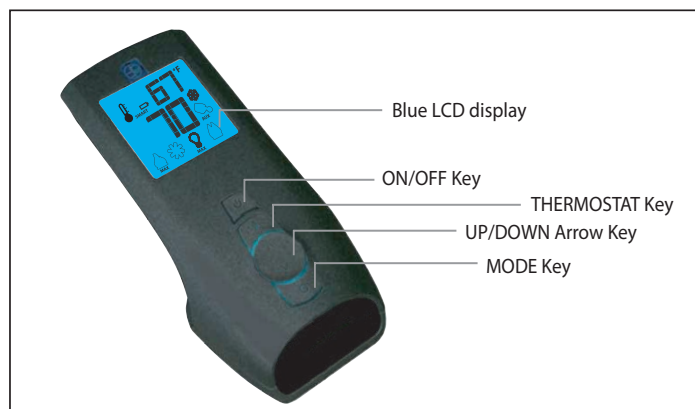
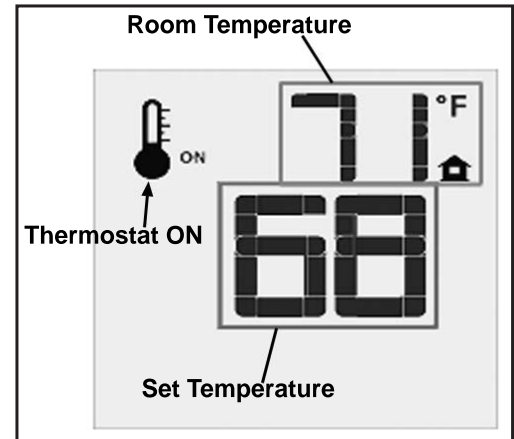
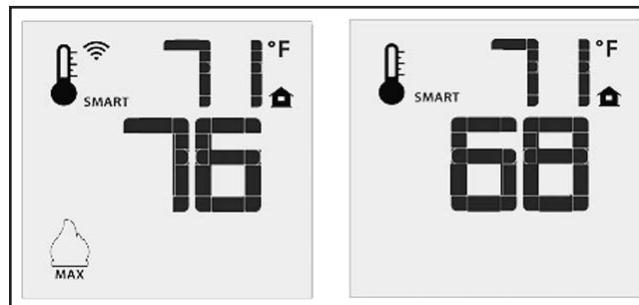
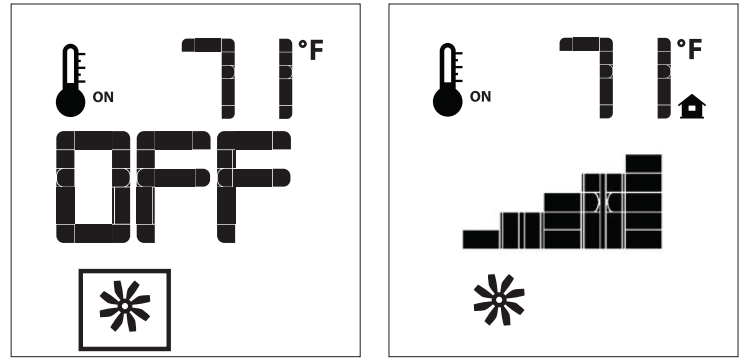

Figure 5: Proflame 2 Transmitter.
Figure 10: Remote Control Displays Set Temperature.
Figure 11: Remote Control's Smart Flame Function.
Figure 13: Fan Control
The Proflame 2 Transmitter is a black remote control with a blue backlit lcd display. It uses a streamline design with a simple button layout and informative lcd readout (Figure 6). The Transmitter is powered by three (3) AAA type batteries. A Mode Key is provided to Index between the features and a Thermostat Key is used to turn on/off or index through Thermostat functions (Figure 5 & 6)
Press the ON/OFF Key on the Transmitter. The Transmitter LCD display will only show the room temperature and Icon (see Figure 10). A single "beep" from the IFC confirms reception of the command and both the pilot light (if the unit is not set to continuous pilot) and main burner will turn off.
The Remote Control can operate as a room thermostat. The thermostat can be set to a desired temperature to control the comfort level in a room. To activate this function, press the Thermostat Key (see Figure 5). The LCD display on the Transmitter will change to show that the room thermostat is "ON" and the set temperature is now displayed (see Figure 10). To adjust the set temperature, press the Up or Down Arrow Keys until the desired set temperature is displayed on the LCD screen of the Transmitter.
The Smart Thermostat function adjusts the flame height in accordance to the difference between the set point temperature and the actual room temperatures. As the room temperature gets closer to the set point the Smart Function will modulate the flame down. To activate this function, press the Thermostat Key (Figure 5) until the word "SMART" appears to the right of the temperature bulb graphic (Figure 11). To adjust the set temperature, press the Up or Down Arrow Keys until the desired set temperature is displayed on the LCD screen of the Transmitter.
The Q2LI comes with a convection fan that can be controlled with the Transmitter. The fan speed can be adjusted through six (6) speeds. To control the fan press the MODE key (Figure 5) to index to the fan control icon (Figure 13). Use the UP/DOWN arrow keys to turn on, off, or adjust the fan speed (Figure 13). A single beep from the IFC will confirm the command has been received